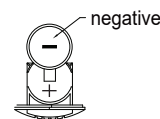

fig.2
---Put CR2032 battery into battery house, the negative side of battery (-) should face out (fig.2).